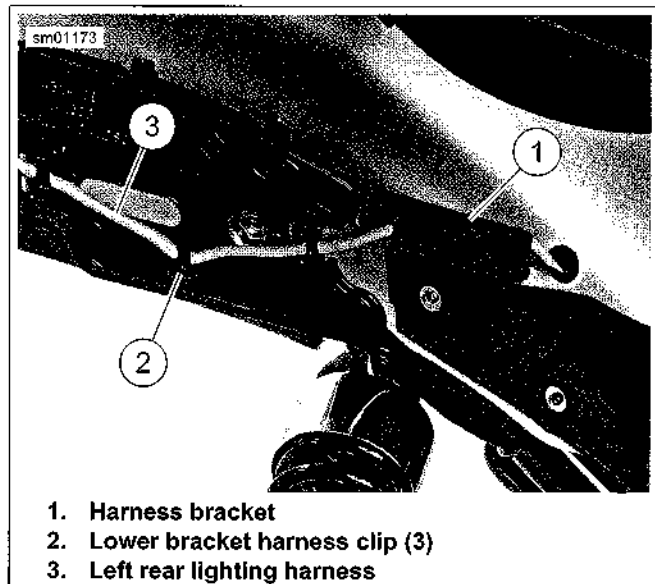
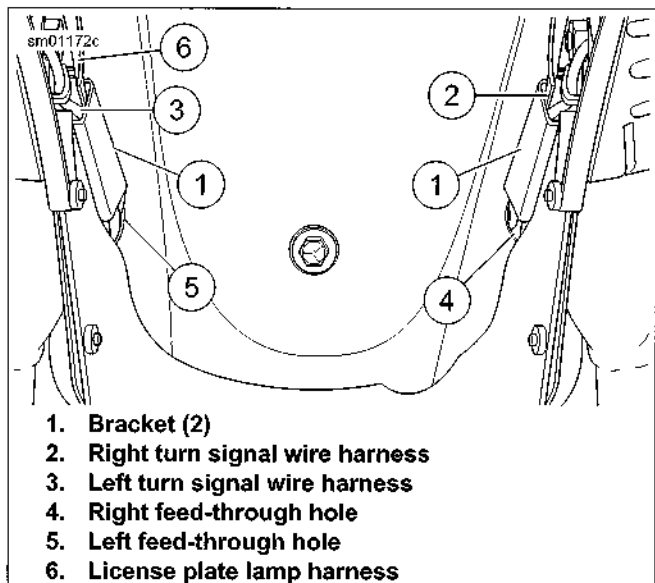

Figure 6-75. Rear Lighting Harness Removal/Installation: XL 883N, XL 1200X/V
Figure 6-76. Wire Harness Routing and Harness Brackets: XL 883N, XL 1200X/V
7. See Figure 6-75. Remove left rear lighting harness (3) from RH and LH harness bracket (1).
8. Remove lighting harness from RH and LH lower bracket harness clips (2).
9. See Figure 6-76. Pull both rear lighting harnesses (2, 3) through feed-through holes (4, 5) in rear fender.